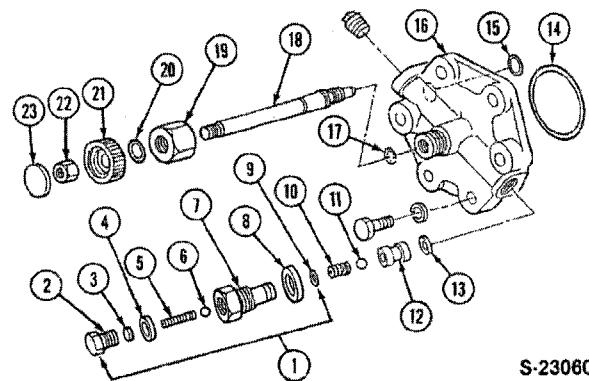

Figure 39
Reference — Figure 39
1. Remove the bolt (2) and shims (3), Figure 39.
2. Assemble the flow control valve as shown, Figure 39, using new O-rings and seals.